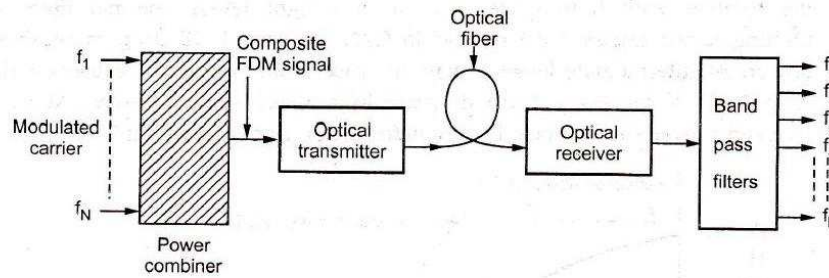

Fig. 6.1.4 Multichannel AM
- x In some applications the bit rate of each channel is relatively low but the number of channels are quite large. Typical example of such application is cable television (CATV). Fig. 6.1.4 shows the technique for combining  $N$  independent channels. Different channel information are amplitude modulated on different carrier frequencies.